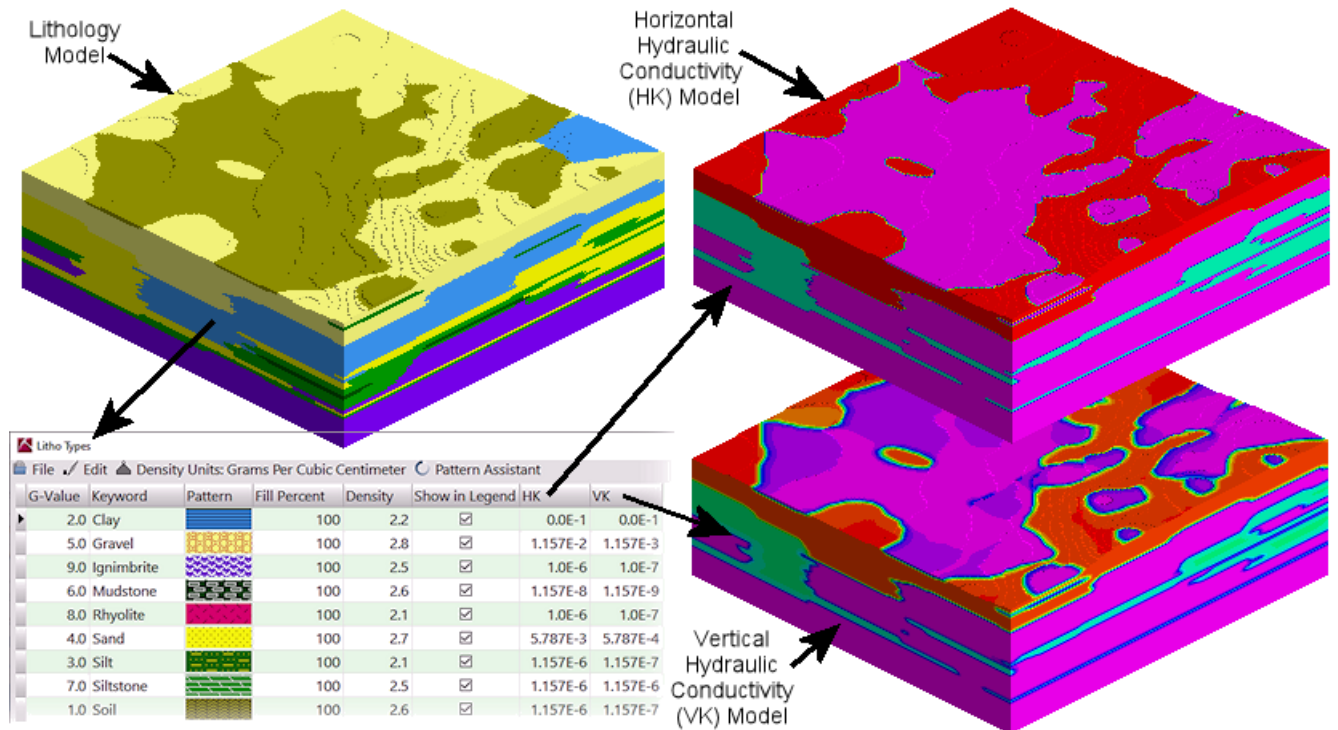

Figure 1
Lithology Model: The specified lithology model will be converted to temporary horizontal hydraulic conductivity (HK) and vertical hydraulic conductivity (VK) models by using the HK and VK values within the *LithoTypes* table (Figure 1). This eliminates a step that would otherwise involve using the *Lithology* → *Anisotropic K* program.